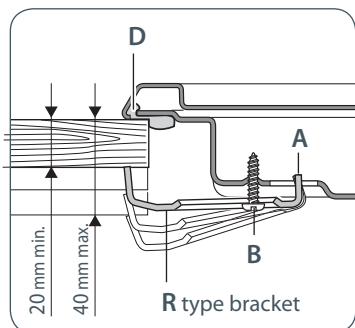

Fig. 10 CE604 models rear side
- 2 Stretch gasket "D" (Figs. 10 and 11) over the edge of the cutout, being careful to overlay the junction edges.
- 5 Put the brackets F and R into place; tooth A of the brackets should go into the hole (Figs. 10 and 11).